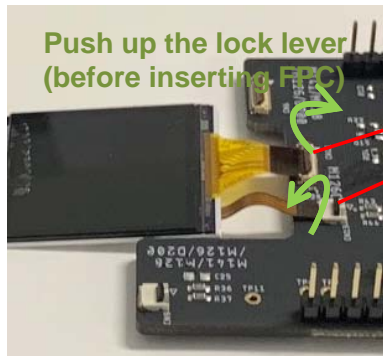
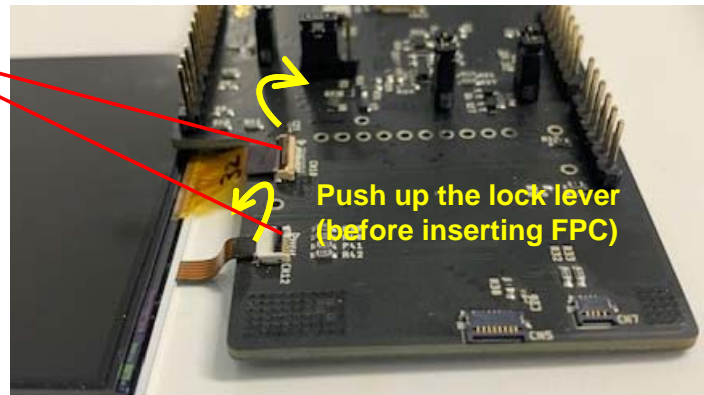

Fig.2 Example of 1.28" with B/L (Connector **unlocked**)
Fig.3 Example of 2.7" with B/L (Connector **unlocked**)
- (2) Unlock the connector (Push up the lock lever) before inserting FPC. Then, insert the FPC in the inmost edge of the connector (Fig.2, Fig.3)